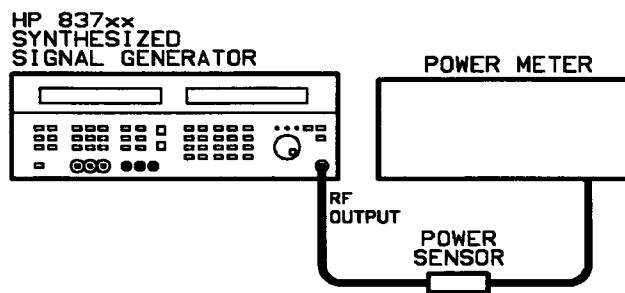

Figure 3-5. Vernier Level Accuracy and Flatness Test Setup
3. Set up the equipment as shown in Figure 3-5.